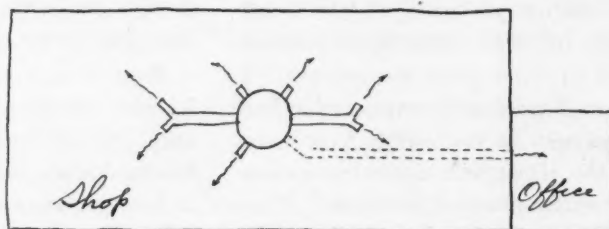

FIG 1
**Q.** I installed a furnace as shown by the inclosed diagram (See Figure 1) and it gave good service in heating a shop; later an office was added and I ran a pipe as indicated by the dotted line. By partly closing the dampers in the short pipes to the shop, heat was forced to the office but there was complaint from the shop that they didn't get enough heat and in the office the temperature of air up close to the ceiling was above 85 degrees and at the floor below 60 when the breathing line temperature was 70. The owner will not consider making the job a complete fan system. I have a twelve-inch booster fan on hand and would like to use it in the warm air duct to the